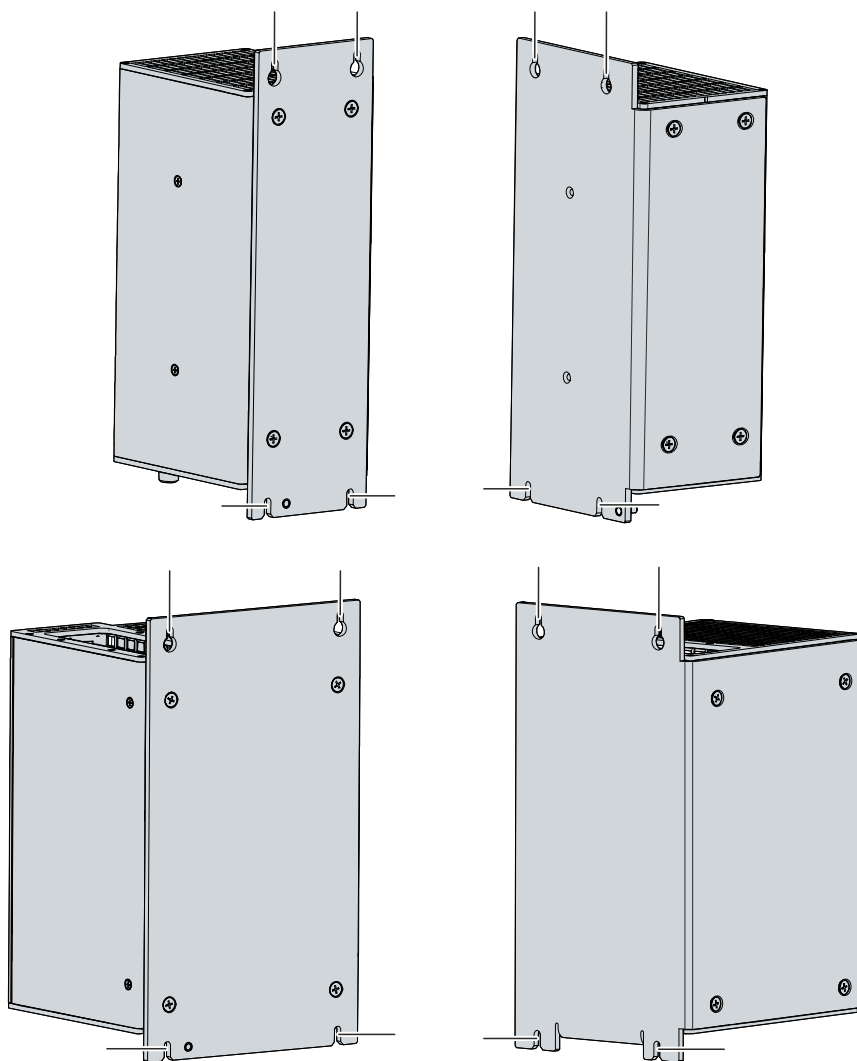

Fig. 17: Control cabinet installation
2. Hang the PC on the screws at the marked points of the mounting plate (see Fig. 17).